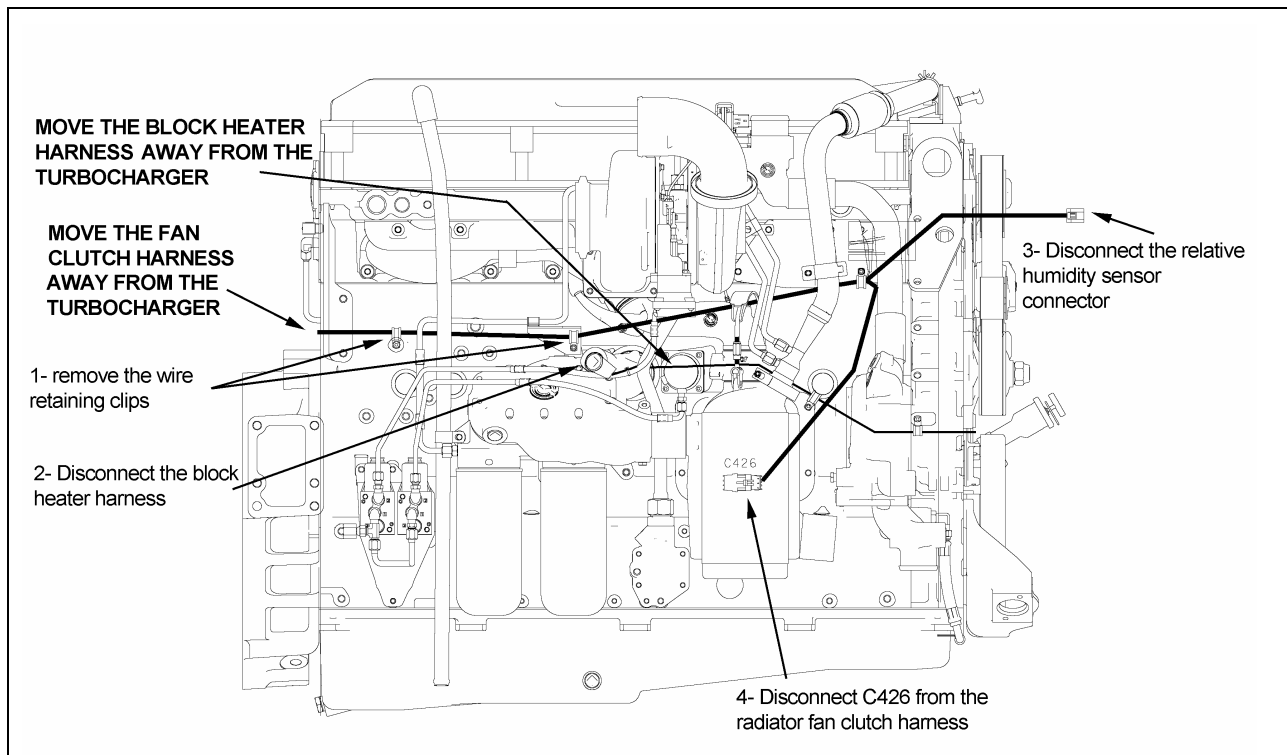

FIGURE 3: MOVE TWO HARNESSES
1. Move the block heater harness and the radiator fan clutch harness as described in figure 3.